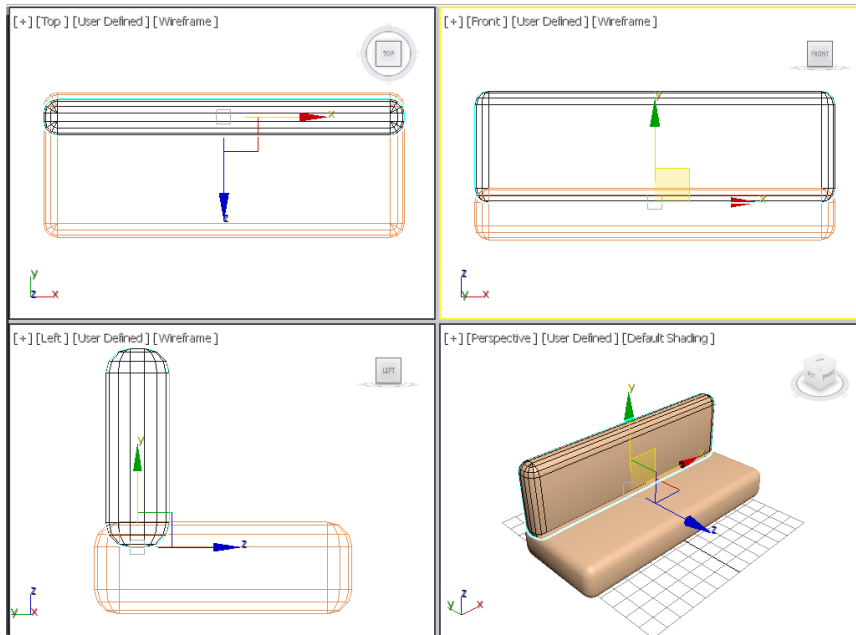

Figure 3-21 Alignment of back support with seat support
8. Choose the **Select and Move** tool select *back support* if it is not selected, and move it in the viewports to align it with *seat support*, as shown in Figure 3-21.